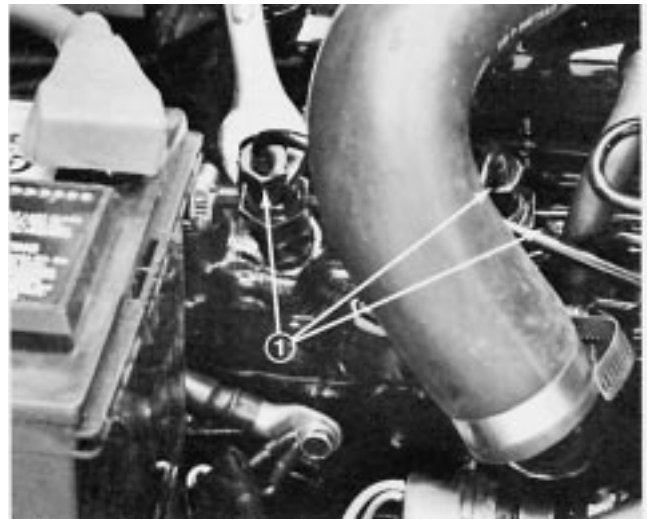

Figure 35
1. Loosen the pipe connection to the No. 1 nozzle and holder assembly (Fig. 35).